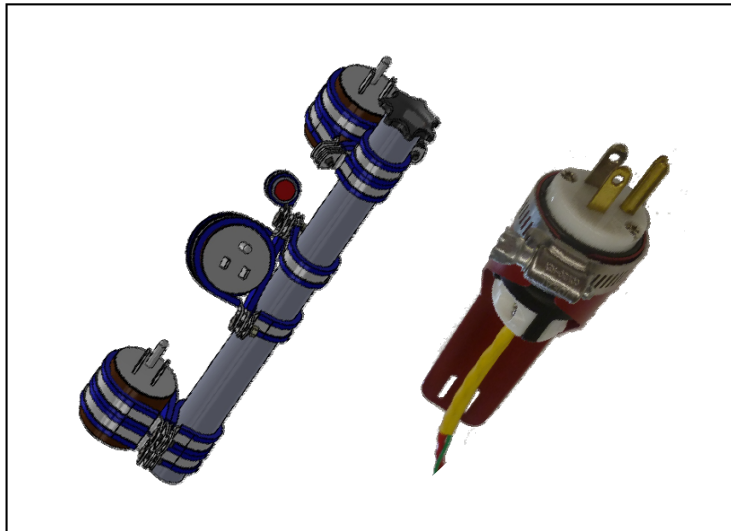

Figure 4-8 Mounting options for circular shore power plug and indicator light using cushioned clamps or Tanis circular bracket (TU01062).
- a) Shore power plug: secure using cushioned clamps or circular plug bracket (TU01062). Typical location for the plug is on or near the oil filler tube, or in a location accessible through an oil door or cowl opening (Figure 4-8).